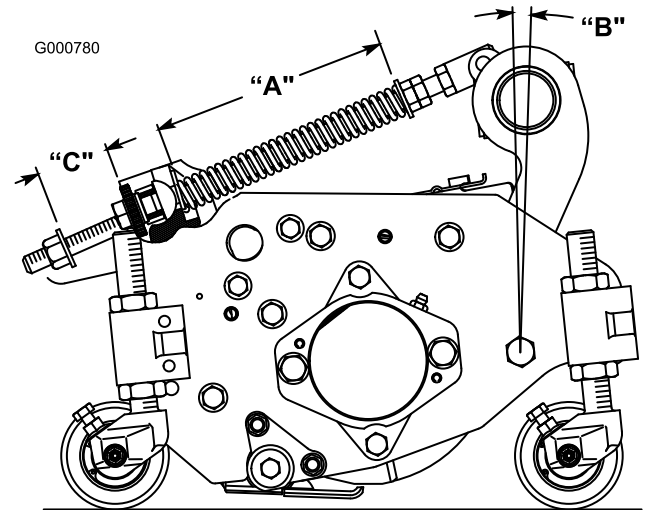

Figure 8
The Turf Compensation Spring (Figure 8), connecting carrier frame to cutting unit, controls the amount of fore-aft rotation
1. Tighten lock nut on rear of spring rod until the gap (C) between rear of spring bracket and front of washer is 25 mm (1 inch) (Figure 8).
2. Tighten hex nuts on front end of spring rod until the compressed length (A) of spring is 203 mm (8 inches) (Figure 8).
Note: When cutting rough or undulating turf, increase compressed length (A) of spring to 216 mm (8-1/2 inches) and gap (C) between rear of spring bracket and front of washer to 38 mm (1-1/2 inches) (Figure 8).